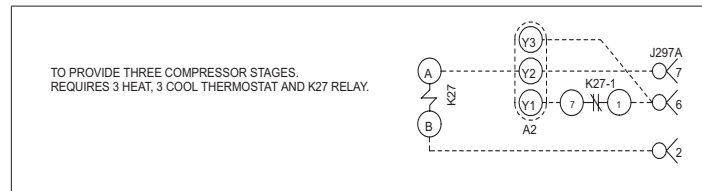

Figure 31. Third-Stage Cool (Parameter 111) Wiring
- **Option 3. Three Cooling Stages:** Cooling operation is shown in “Table 8. Thermostat Mode Operation (Three Cooling Stages Parameter 111)” on page 32; this option requires the use of a three-stage cool thermostat and a K27 relay. See wiring pictorial in “Figure 31. Third-Stage Cool (Parameter 111) Wiring” on page 31 and C section control wiring diagram.